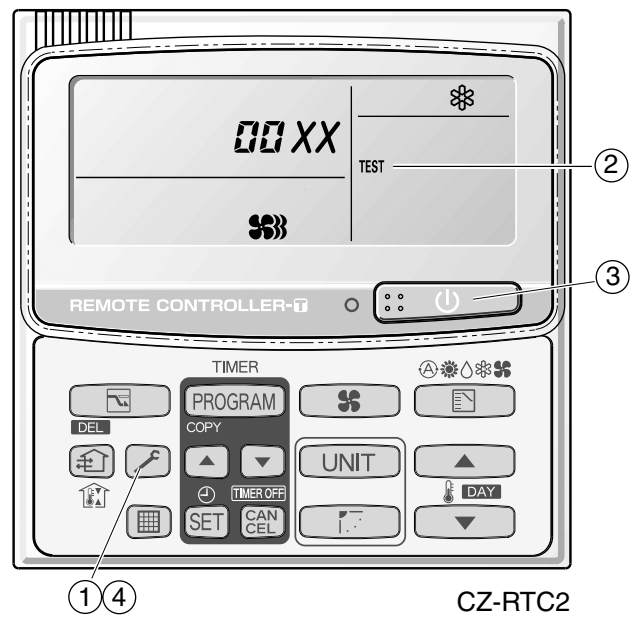

Fig. 3
- ① Press and hold the  button for 4 seconds or longer.
- ② "Test" appears on the remote controller LCD display (Fig. 3).
- ③ Start operation.
- ④ Press the  button to return to normal remote controller display.